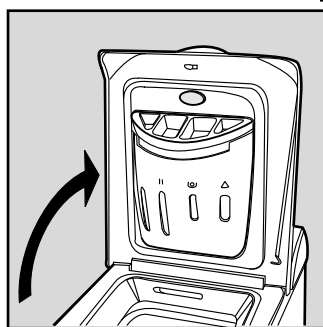

Fig. 1
A) OPENING (Fig. 1). Lift the external lid and open it completely.